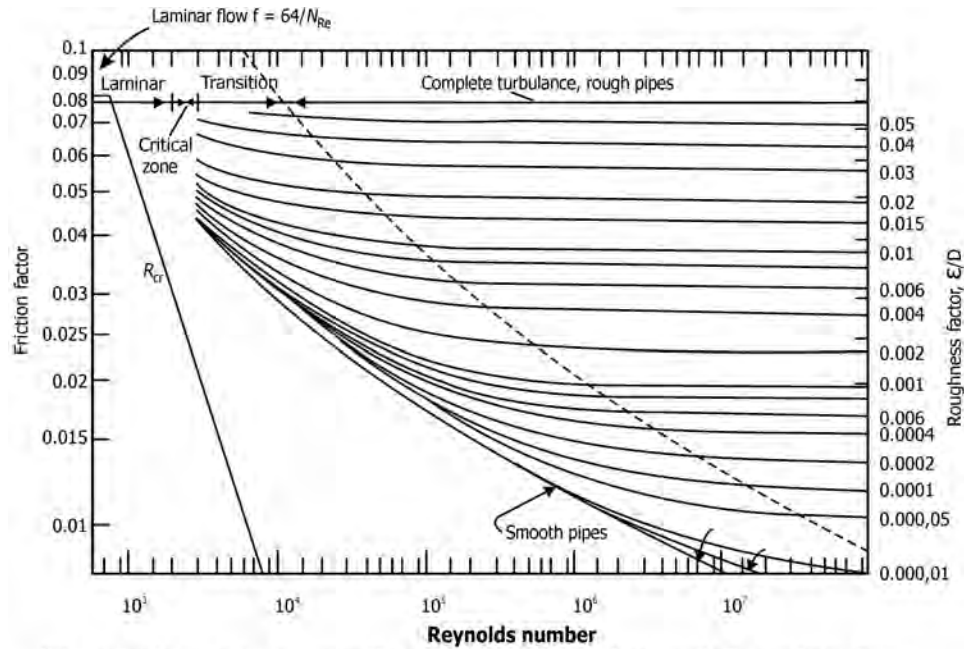

FIGURE 3.1 D'Arcy friction factors as function of N_{Re} .
- Figure 3.1 represents Moody diagram.